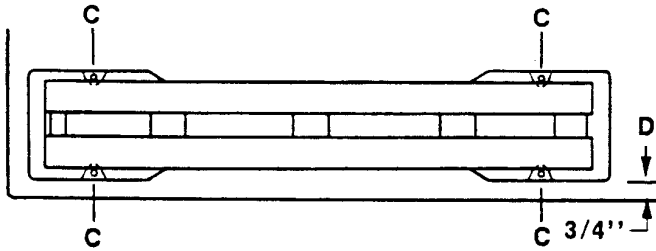

FIGURE 3
Remove bolts from skid and place the lathe on the bench in the position shown in Fig. 3 with front edge of the lathe leg (D) about 3/4" from the front of the bench. Mark the position of four mounting holes (C).